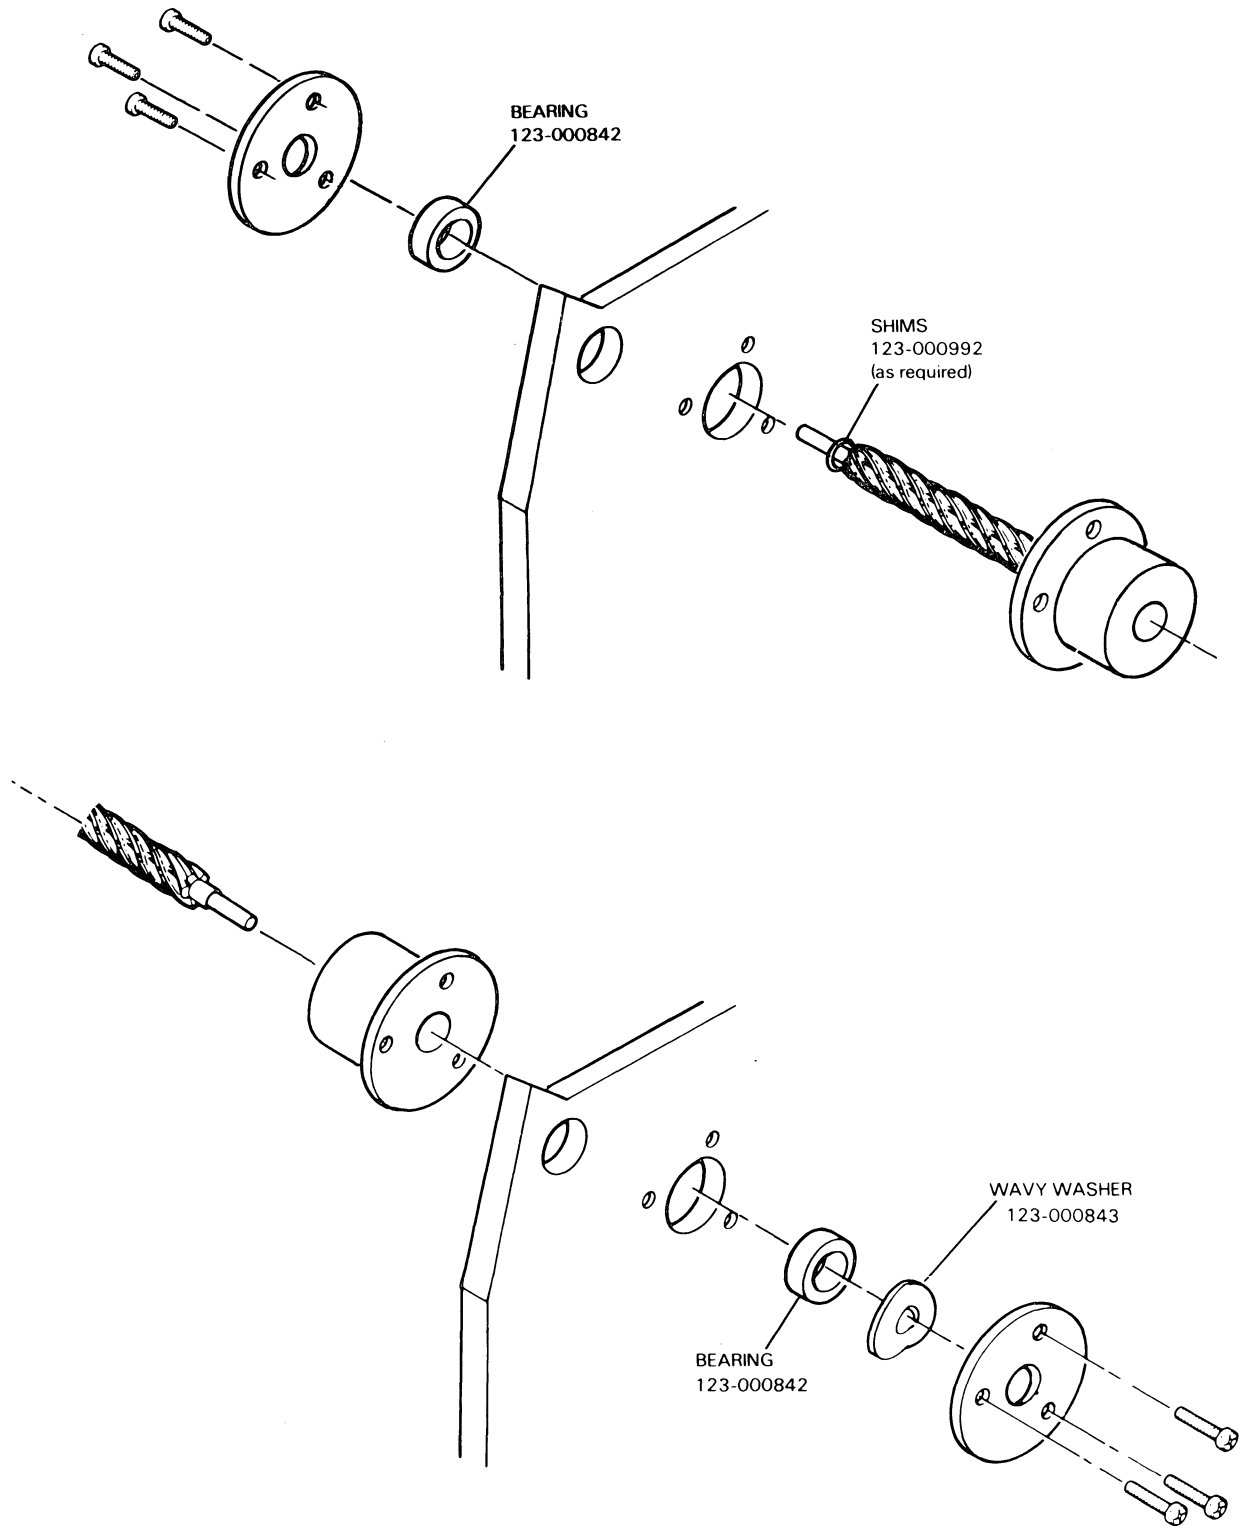

Figure 5.41 Leadscrew Adjustment
1. Remove the left bearing retainer plate by removing three screws (see Figure 5.41).